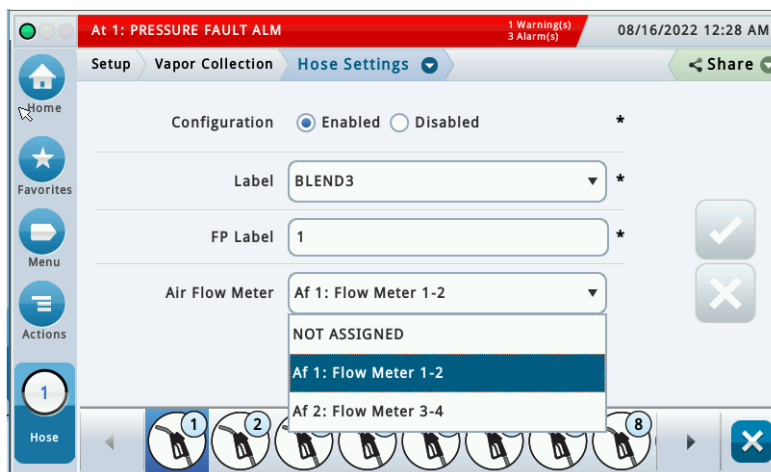

Figure 19. Vapor Collection Hose Settings Setup
4. Enter the FP Label number for this hose that is located on the dispenser (see Figure 19).
5. Touch the drop-down arrow in the Air Flow Meter field and select the AFM associated with this hose (see Figure 19).